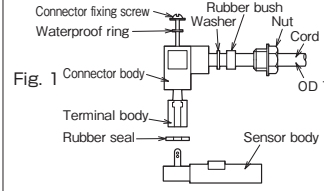

Fig. 1 Connector body
4. Insert the cord as shown in Fig. 1.